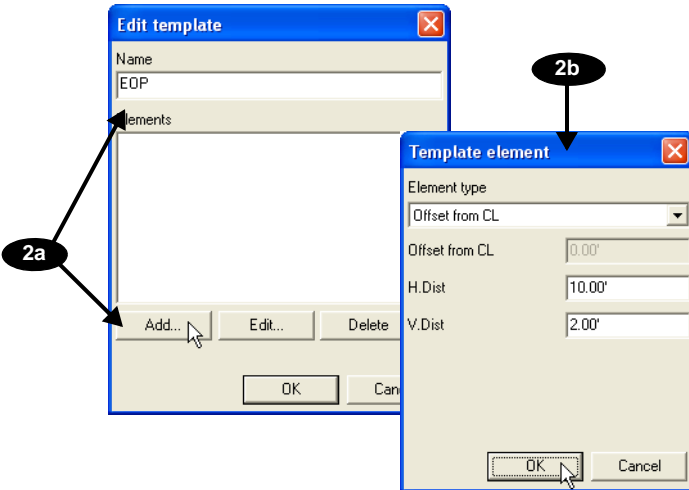

Figure 6-9. Set First Template Element
2. Enter a name for the template and click **Add** on the *Edit template* dialog box. Select the first element type as *Offset from CL*, enter the *H.Dist* and *V.Dist* values, and click **OK** (Figure 6-9).